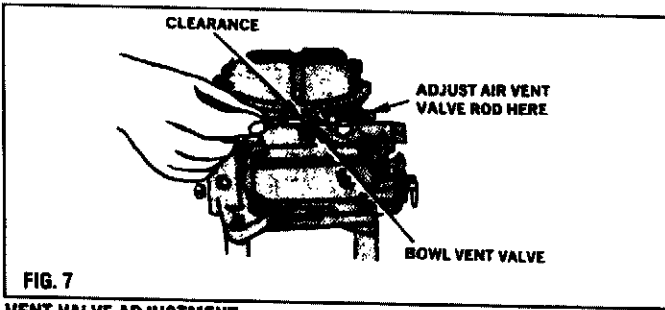

FIG. 7
- (1) Adjust air vent rod and valve as follows: Check the clearance from valve to seat with a drill with choke open and throttles closed. The clearance must be .050 to .070.
- (2) The clearance of the air vent valve on early production low inlet fuel bowl models with a different vent rod is corrected by bending the end of the pump operating lever. On later models, bend the rod as shown in Figure 7.